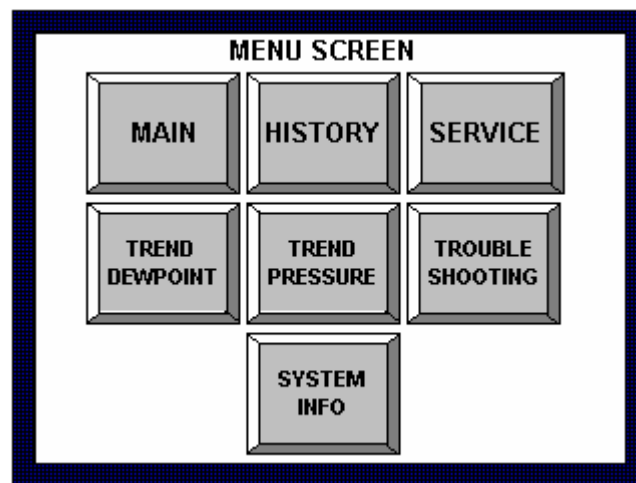
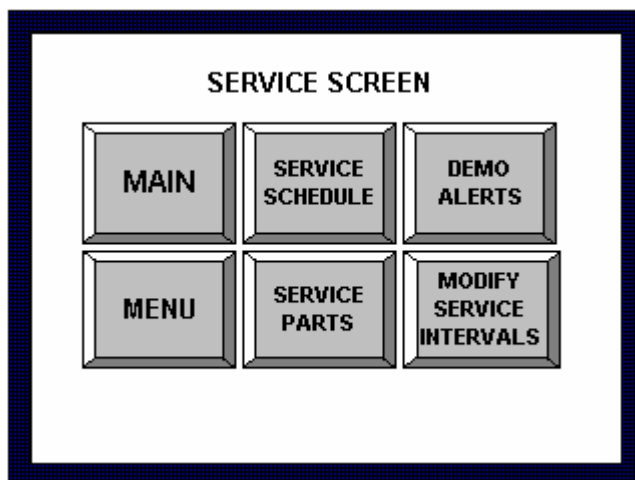

FIG E.3.1. Menu Screen
FIG E.3.4.a. Service Screen
The “MENU” button in the upper left corner (FIG E.2.) on the main screen when selected will display the “MENU SCREEN” window that will allow the operator to access information about the units’ history, service requirements, dewpoint and pressure trends, troubleshooting help and system information (See FIG E.3.1.) Each button will be explained in detail in this section.
The “HISTORY” button (see FIG E.3.1.) will open a new window listing all the alarm conditions that have occurred as well as routine maintenance alerts (FIG E.3.3.). The list will show the date and time of the incident, type of incident and when the condition was cleared/corrected. This creates a permanent record of the history of the unit and cannot be reset.
The “SERVICE” button (see FIG E.3.1.) will open a new screen that allows the operator to view the service schedule for the unit, get a list of standard service parts and view the service intervals for the unit (FIG E.3.4.a.)
3. “SERVICE SCHEDULE” button will display a new window listing the service items, when they are due to be serviced and the last time service was performed on that item (See FIG E.3.4.b). The buttons shown at the bottom of the screen allows the operator to navigate between the individual compressor units (unit #1, unit #2) and the overall system service screen. The Log-in button is used to enter a password for access to the reset buttons.